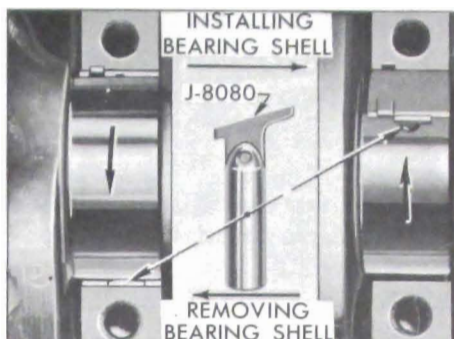

Figure 2-50—Removing and Installing Crankshaft Bearing Upper Shell
2. Remove upper bearing shell by inserting Bearing Shell Remover and Installer J-8080 in oil hole in crankshaft, then slowly turning crankshaft so that the tool rotates the shell out of place by pushing against the end without the tang. See Figure 2-50. **CAUTION:** When turning crankshaft with rear bearing cap removed hold oil seal to prevent it from rotating out of position in crankcase.